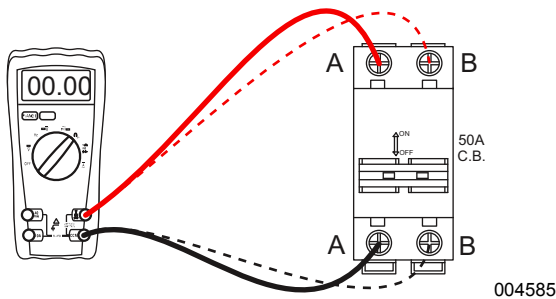

Figure 4-2. 50 Amp Breaker Test Points
See **Figure 4-2**. If a breaker failure is suspected, it can be tested as follows:
3. See **Figure 4-2**. With the generator shut down, connect one meter test lead to one terminal of the breaker and the other meter test lead to the other terminal.